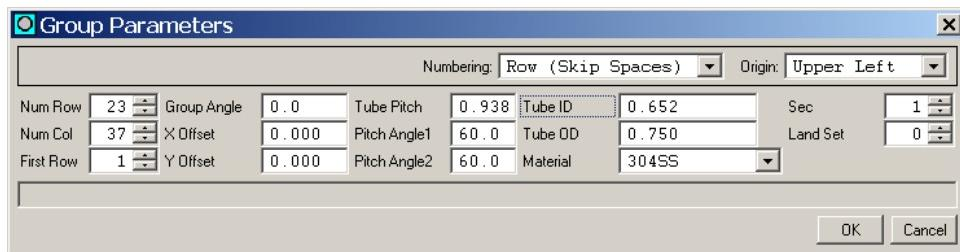

Figure 61. Completed Group Parameters Dialog for Section 1
STEP 33: The *Group Parameters* dialog should look like Figure 61. Click **OK** on the *Group Parameters* dialog.